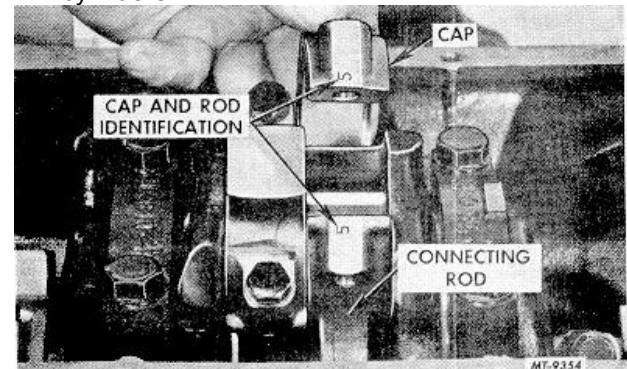

Fig. 41 Connecting Rod Cap Removal
50. Remove the cap and push the connecting rod and piston assembly from the cylinder bore, Figs. 41 and 42. Replace the cap and the bearing inserts on the rods so the numbered sides match. The assemblies are numbered so they can be reinstalled in their respective cylinders.